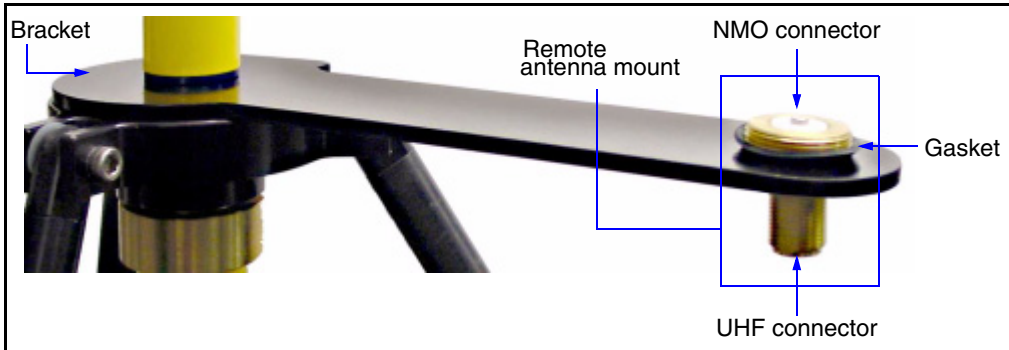

Figure 2.1 Placement of the remote antenna bracket and remote antenna mount
2. Attach the remote antenna mount to the remote antenna bracket and the NMO to N(F) adaptor to the SiteNet radio.
- a. Attach the antenna mount for bracket (P/N 49828) to the narrow end of the bracket for the remote radio antenna (P/N 49102) as shown in Figure 2.1. Place the rubber gasket from the radio antennas (0 dB, 3 dB and 5 dB) and the base (P/N 22882-10) between the NMO connector side of the mount and the bracket. The NMO connector side of